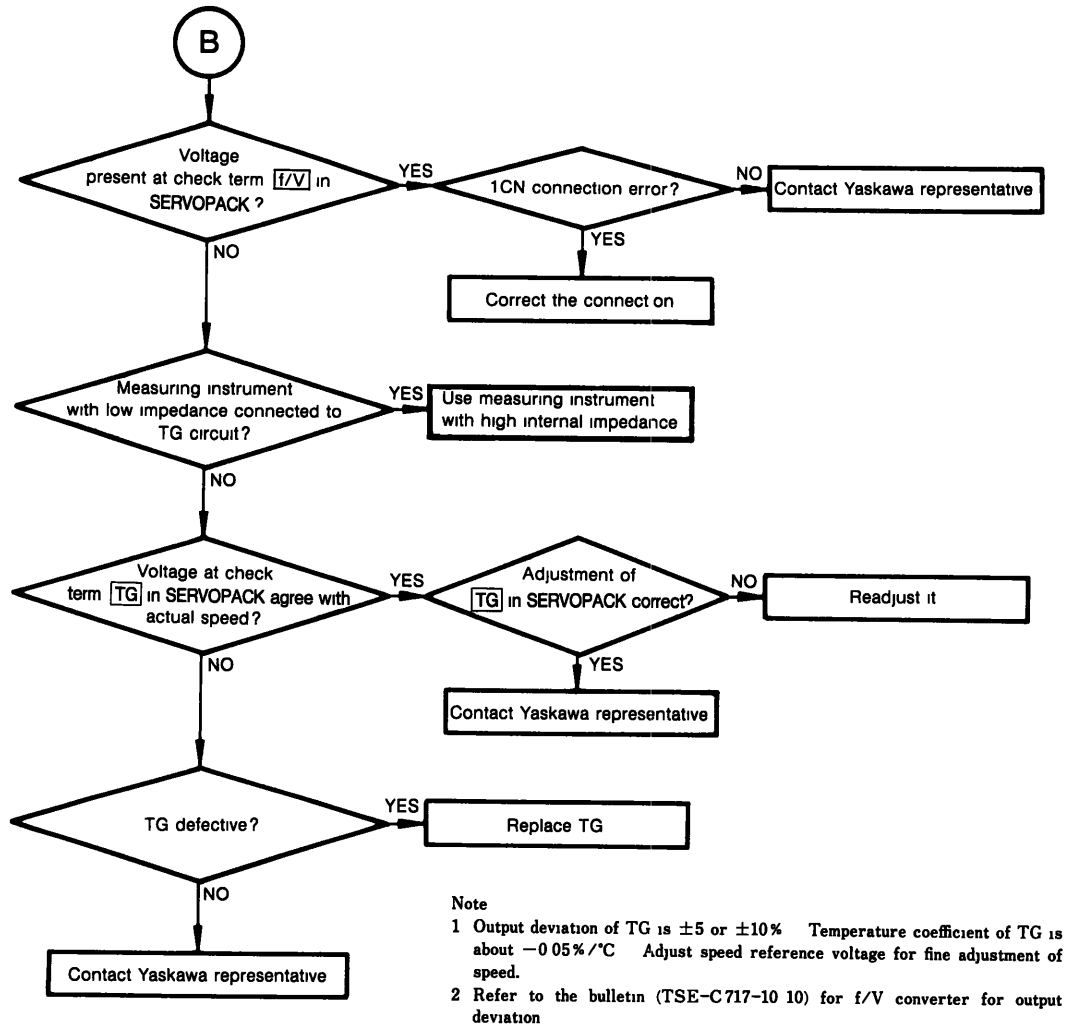

Fig. 13.6 Troubleshooting Defective Rated Speed (Cont'd)
- (6) Rated reference voltage is applied, but motor does not reach rated speed. (Fig. 13.6)